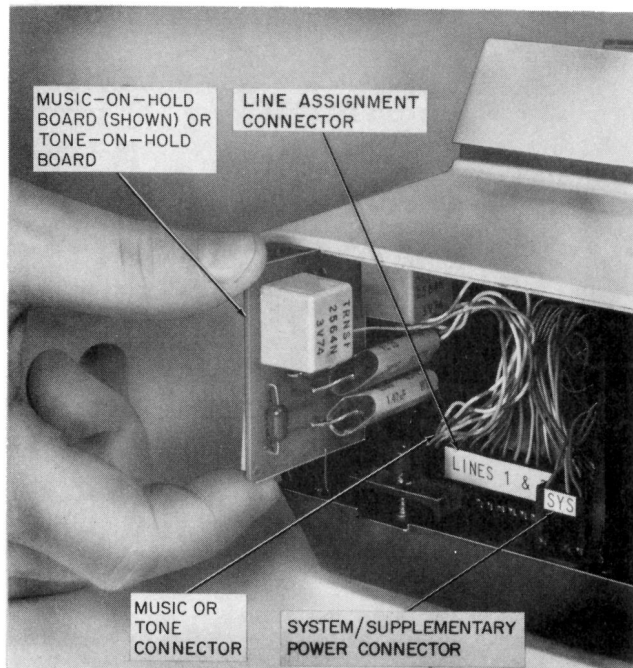

Fig. 19—Primary Set, Rear View With Heat Sink Removed
- (b) Find the line assignment connector plugged into the logic board near the back of the set (Fig. 19). The visible side is labeled "LINES 1 & 2."
- (b) Find the power connector labeled SYS plugged into the logic board near the back of the set (Fig. 19).
- (b) Plug the circuit board connector into the keyed plug on the logic board (Fig. 19 and 21).
- (c) Insert the music-on-hold circuit board vertically in the slots in the housing and base (Fig. 19).